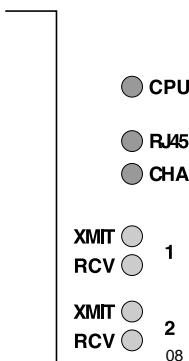

Figure 3-4 ESXMIM LANVIEW LEDs
8. Observe the status of the LANVIEW LEDs (Figure 3-4) on the ESXMIM. When the CPU LED is amber, the module is in boot state. During this approximately one minute period the ESXMIM cycles through a series of internal diagnostics.